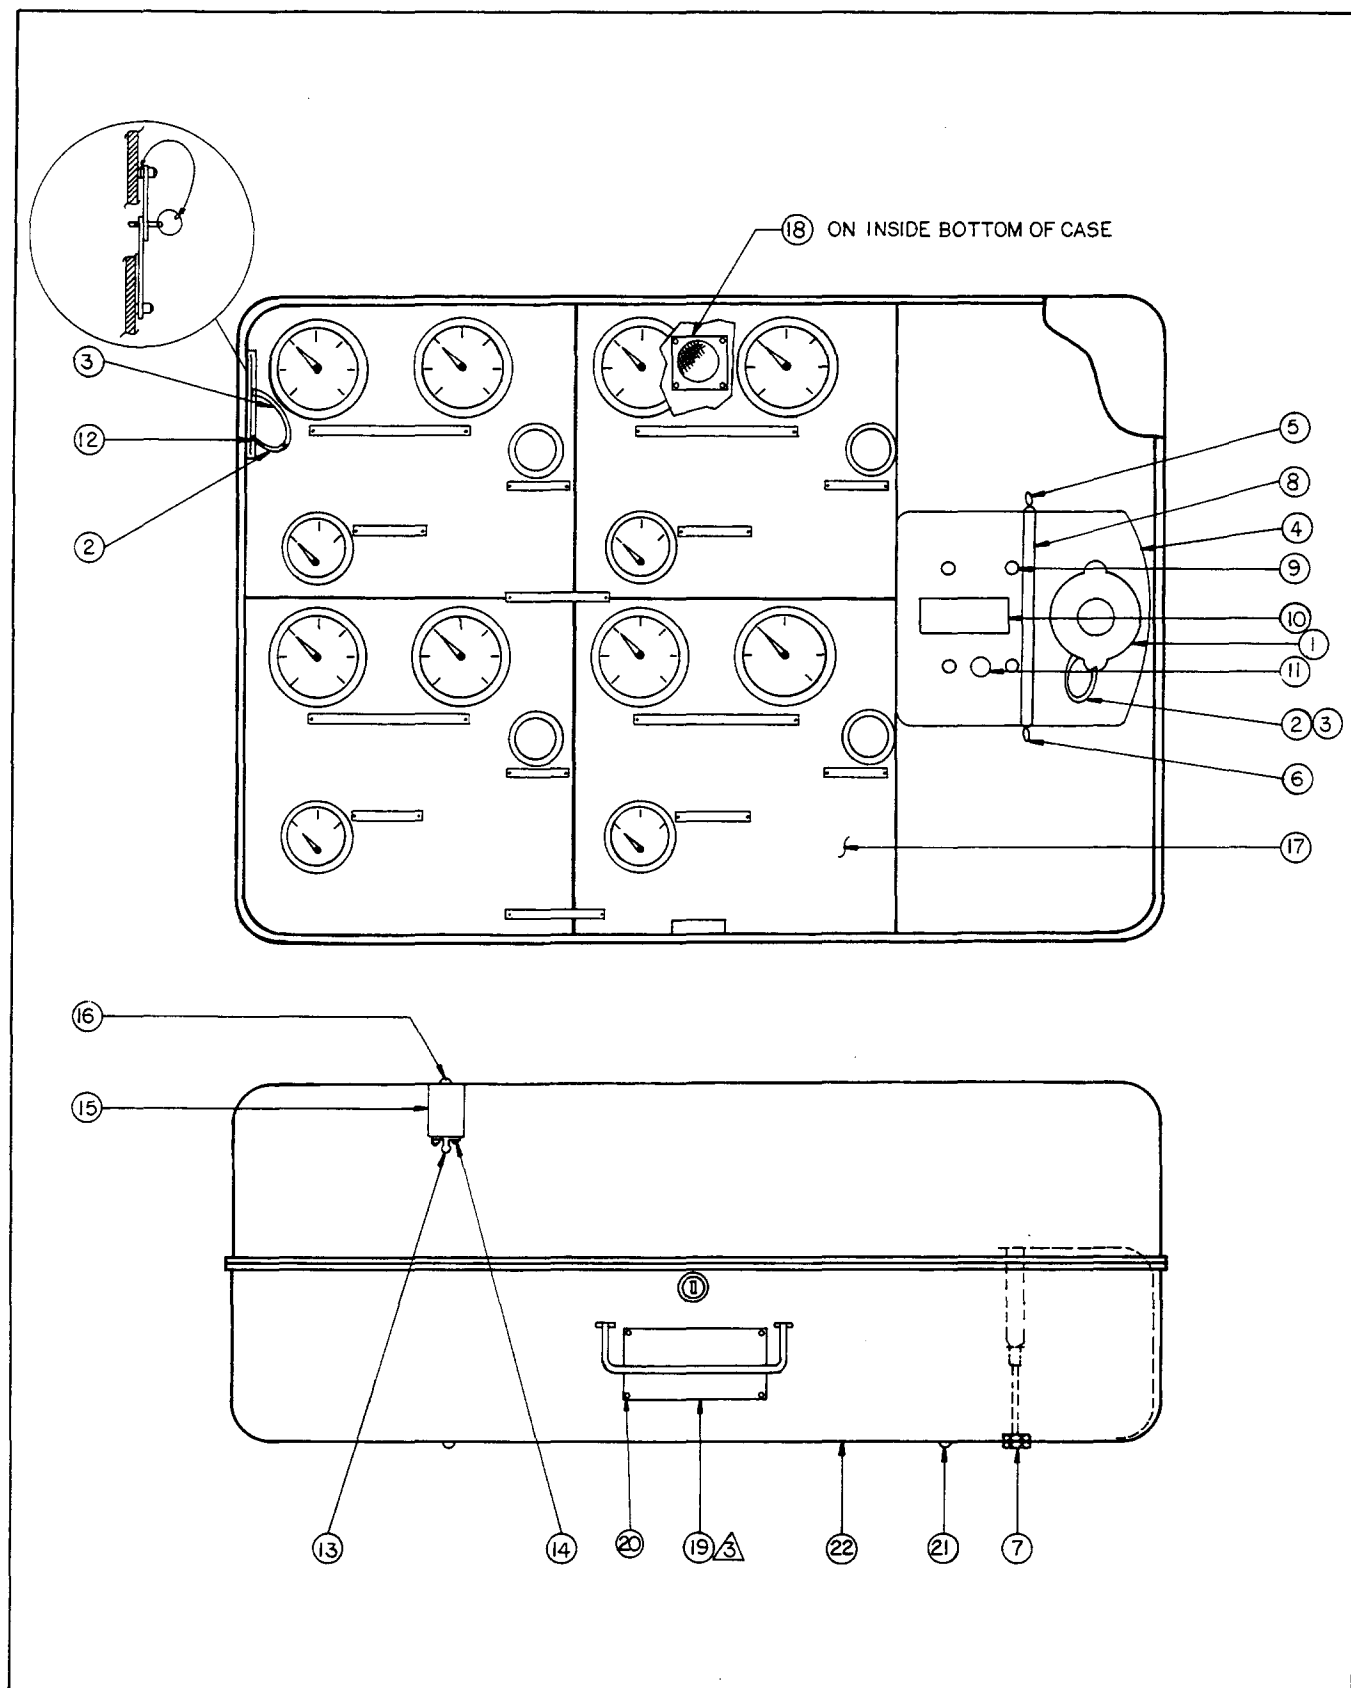
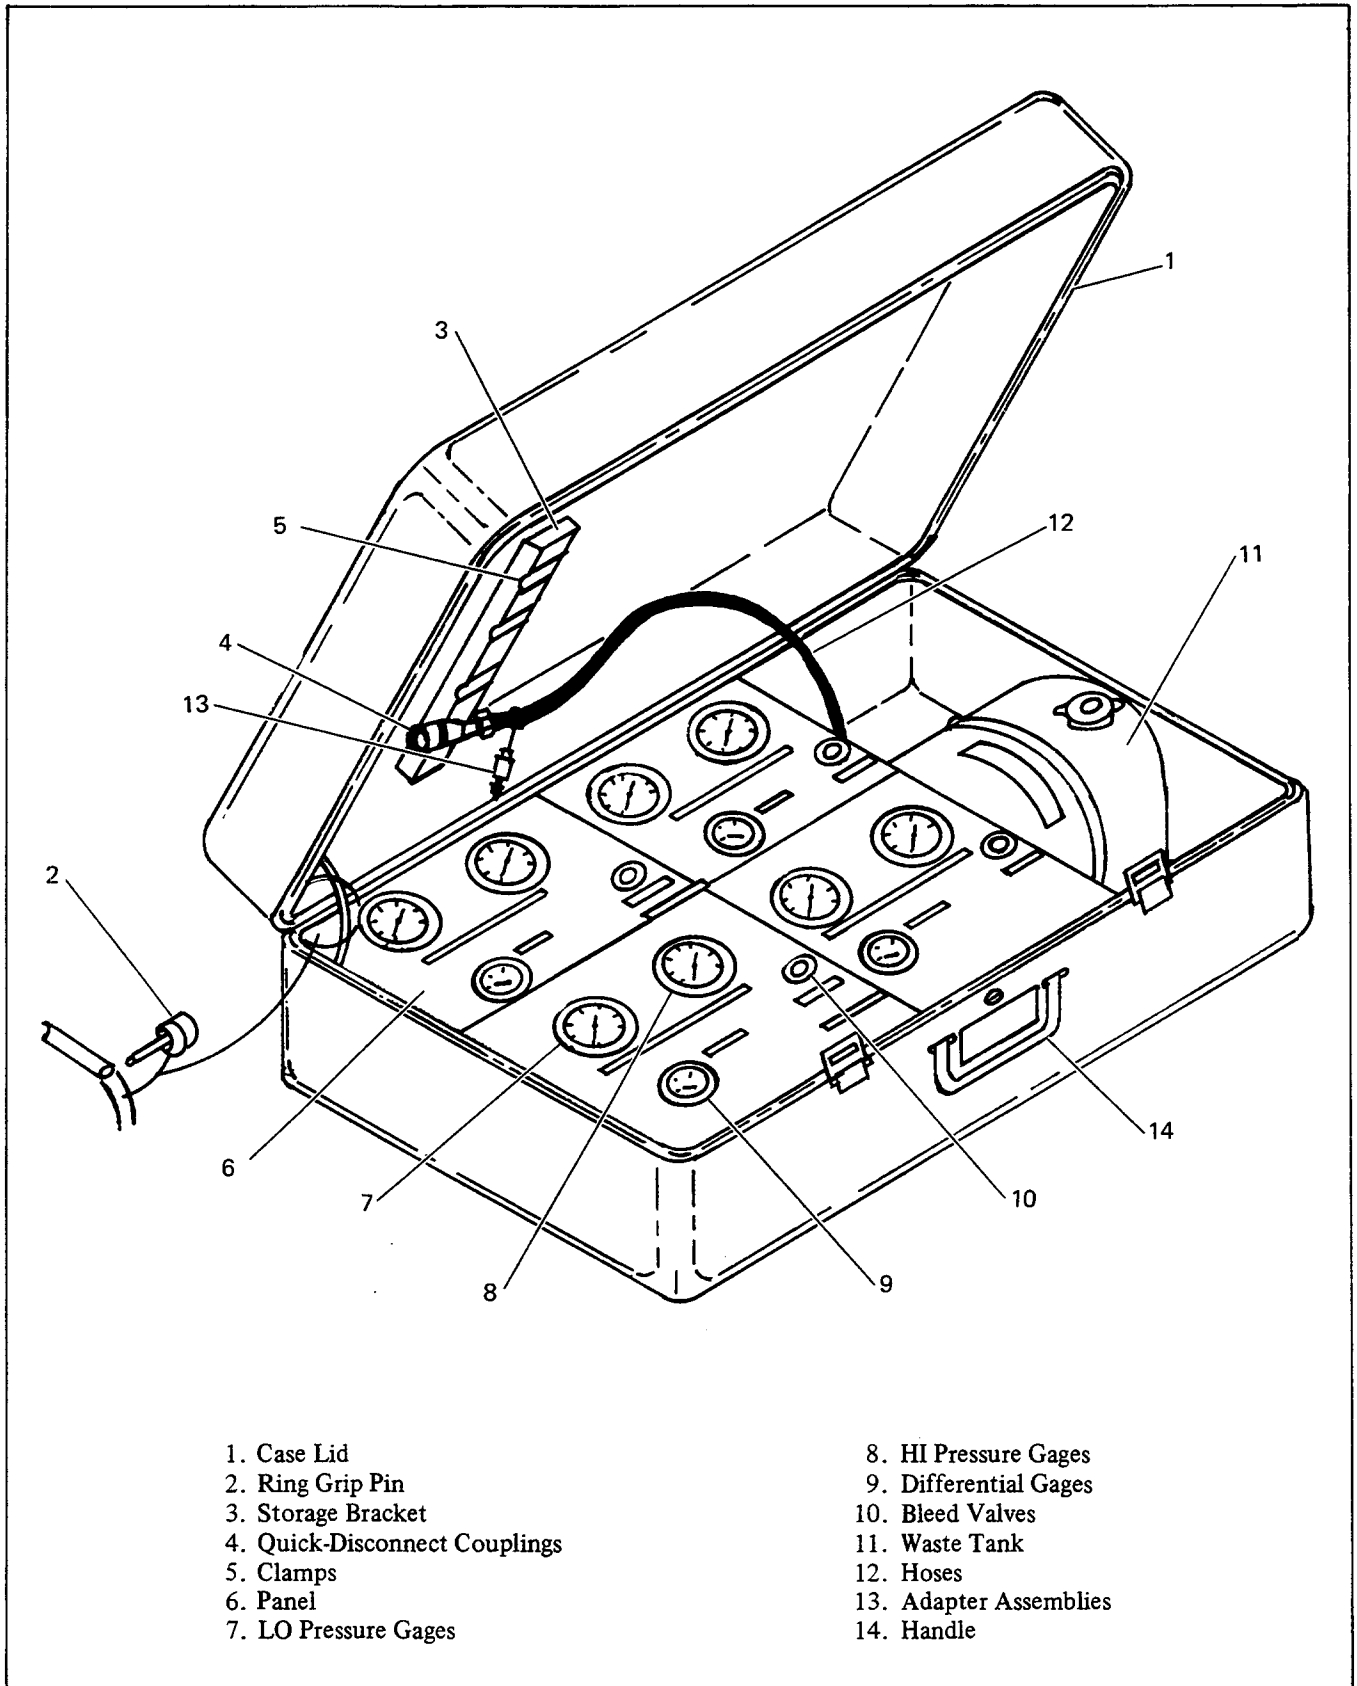

Figure 5-3. Brake Pressure Test Set
Figure 5-5. Brake Pressure Test Set
(2) When hydraulic fluid flowing through the translucent drain tubing (9, Figure 5-2) into the waste tank (4, Figure 5-3) contains no bubbles, close valve (14, Figure 5-2).
(3) Repeat (1) and (2) with the next circuit of the test set until all required circuits have been charged.
(4) Assure all bleed valves are closed.
(5) Test set is ready to perform aircraft required testing.
5-7. DISASSEMBLY. (Refer to Figure 5-3.) Disassemble the test set to allow access to hydraulic components, using the following steps.
a. Remove waste tank (4, Figure 5-3) by unhooking strap (8) and pulling drain hoses (12, Figure 5-5) from tank grommets (9, Figure 5-3).
a. Install panel assembly (17, Figure 5-3). Secure with five screws (54, Figure 5-2).
b. Install waste tank (4, Figure 5-3) by inserting drain hoses (12, Figure 5-5) through tank grommets (9, Figure 5-3). Secure with strap (8).